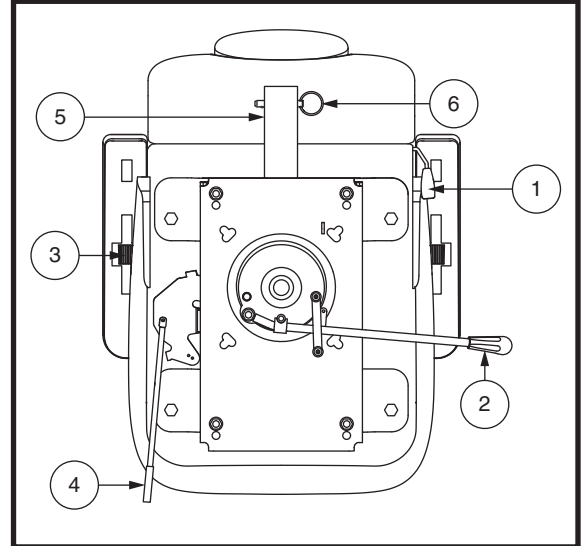

Figure 16. Seat Adjustments – Style B
If your scooter is equipped with a reclining seatback, you can adjust the seatback angle with the seatback adjustment lever. See **figure 16**.
1. Move the seat sliding lever (located at the lower left side of the seat) outward. See **figure 16**.
Armrest angle of your scooter can be adjusted upwards or downwards by turning the adjustment dial. See **figure 16**.
The rear-mounted accessory bracket allows you to attach a personal accessory such as a basket, walker holder, or oxygen tank to the back of your scooter. Utilize the detent pin to securely mount your item to the accessory bracket. See **figure 16**. See your authorized Provider for details.